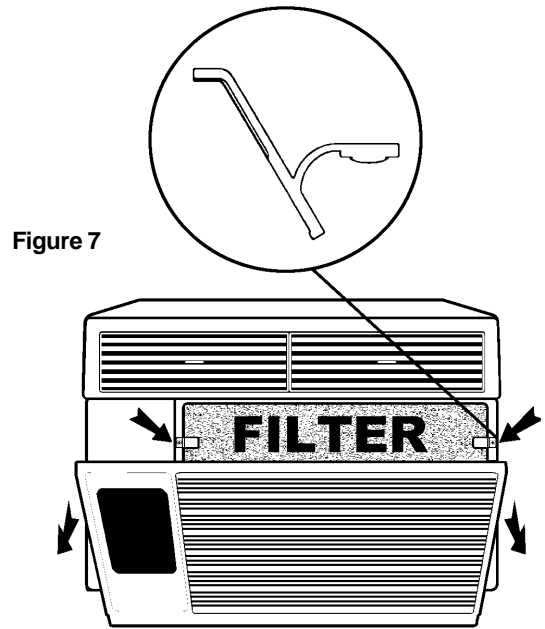

Figure 7
Open the return air (RA) grille by grasping it at the top outside edges and pulling towards you (See Figure 7). The RA grille will stay open until it is detached or closed (it is easier to completely detach the grille before closing it). To remove the RA grille, grasp it at the bottom and pull towards you.
The filter is held in place by two spring clips (See Figure 7). Push down on the clips, grasp the filter and pull towards you to remove it for cleaning. Clean with warm water and a mild detergent, rinse, dry completely and replace. Use caution when removing the filter. The coil surface can be sharp.